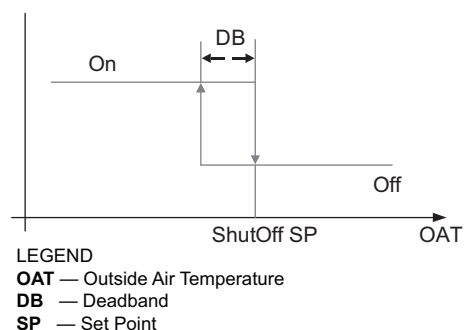

Fig. 74 — Hysteresis Settings
Hysteresis setting (DB) defaults to 2°F (–17°C). See Fig. 74.